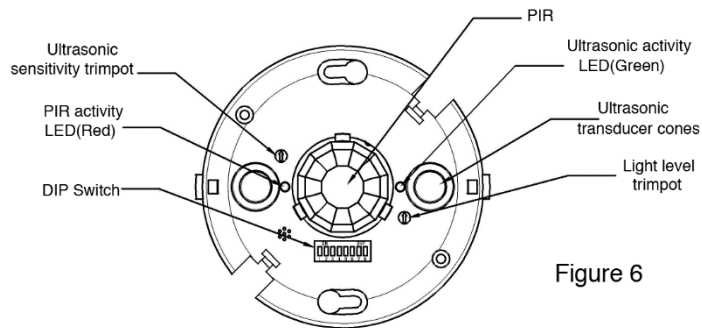

Figure 6
7. Snap the front cover onto the sensor (see Figure 6).